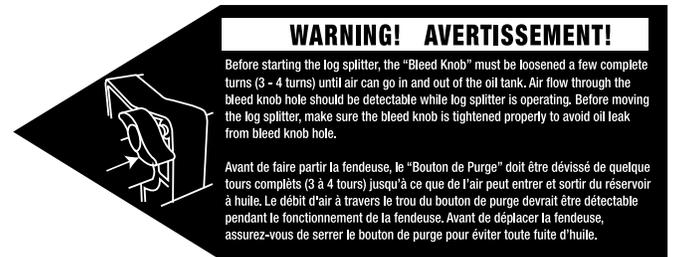

FIGURE 5
**FAILURE TO LOOSEN THE BLEED KNOB WILL KEEP THE SEALED AIR IN HYDRAULIC SYSTEM BEING COMPRESSED AFTER BEING DECOMPRESSED. SUCH CONTINUOUS AIR COMPRESSION AND DECOMPRESSION WILL BLOW OUT THE SEALS OF THE HYDRAULIC SYSTEM AND CAUSE PERMANENT DAMAGE TO THE LOG SPLITTER. DO NOT ADJUST THE MAX PRESSURE LIMITING SCREW (A) Fig.5.**